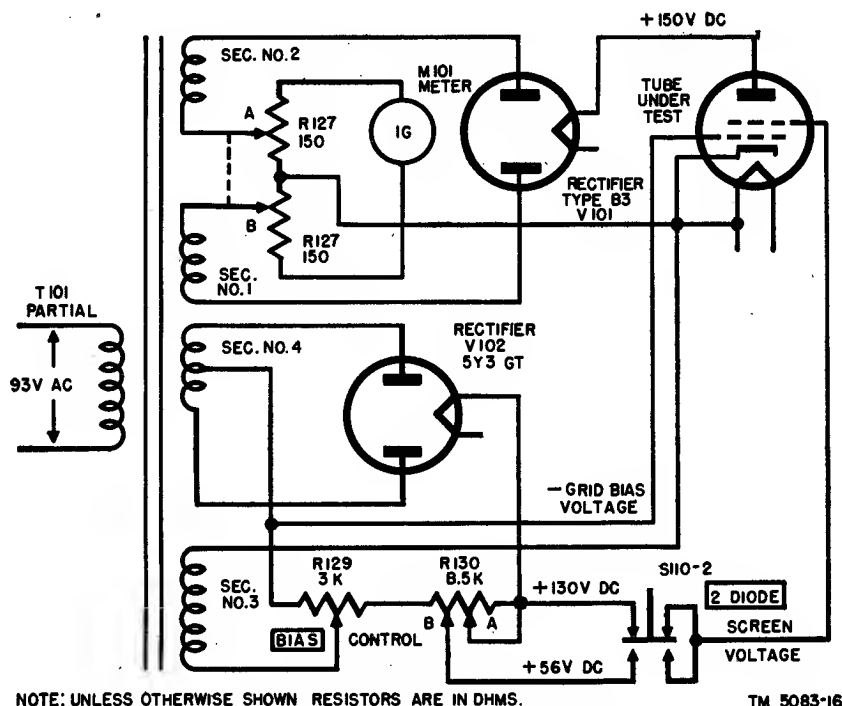

Figure 17. Simplified mutual conductance test circuit.
f. *Mutual Conductance Test Circuit* (fig. 17). The mutual conductance (G_m) of an amplifier-type vacuum tube, also called the grid plate transconductance, is an expression which represents the efficiency of performance of a tube. It is defined as the change in plate current (ΔI_p) divided by the change in grid voltage (ΔE_g). The relation generally is written $G_m = \frac{\Delta I_p}{\Delta E_g}$. Transconductance is expressed in mi-
erates switch S110-2 and reduces the screen voltage to approximately 56 volts as illustrated by figure 17.